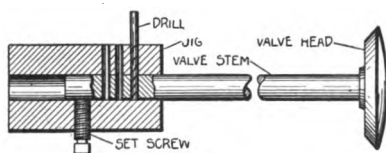

Fig. 174. Cheap Jig for Slotting Valve Stems
**Cutting Valve-Key Slots.** Cutting valve-key slots in valve stems is another mean job which the repair man frequently meets. He runs across this in repairing old cars for which he has to make new valves; and at other times for other repairs. The best plan is to make a simple jig which will hold, guide, and measure all these things at once, as all are important. Such a jig is shown in Fig. 174. It consists of a piece of round or other bar stock, in which a central longitudinal hole is drilled to fit the valve stem, one end being threaded for a set screw. Near the other end of the jig, three holes, of such a diameter as to correspond with the width of key slot desired, are drilled in from the side. These are so placed that the length from the top of the upper hole to the bottom of the lower gives the length of key seat desired. Opposite the three drilled holes and at right angles to them, another hole is drilled and tapped for a set screw.